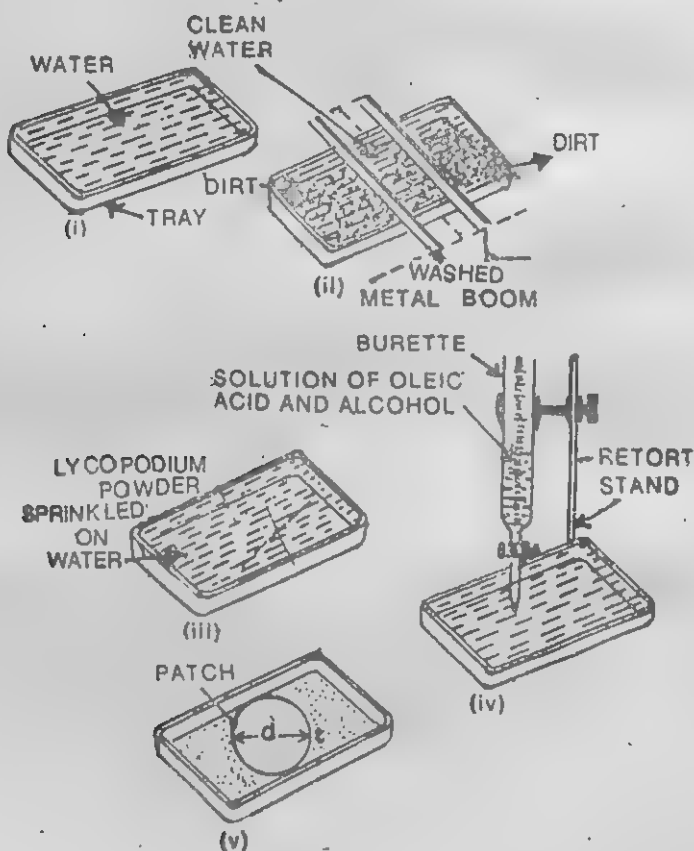

Fig. 27.1.
3. Place the given glass bottom tray (30" × 30" as used in photography) with graph paper attached to the underside on the bench. The tray is cleaned with clear cotton and detergent powder and rinsed with water a number of times without touching any of its sides with fingers so that it is free from grease etc. Fill the tray partially with clean tap-water and level it carefully by using rubber wedges. Now fill the tray to *over-brimming* with further levelling (Fig. 27.1).
4. Clean the water surface by moving the two *waxed metal booms slowly from the middle to the two ends of the tray [Fig 27.1 ii)]. The booms should be left near the end of the tray.
5. When the water in the tray has become quite steady sprinkle the surface with lycopodium powder. [Fig. 27.1 (iii)].
6. Arrange the burette so that its jet is just above the surface of the water in the tray [Fig. 27.1 (iv).]
8. Using the graph paper estimate the area of the **patch of clear liquid formed [Fig. 27.1 (v)]. If the patch is rough circular then use metre rod to measure the maximum diameter of the patch produced in two directions.